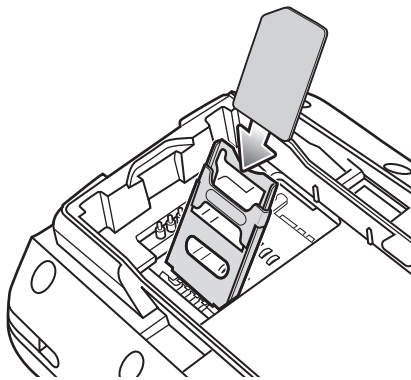

Figure 5-2 Inserting the SIM Card
6. Insert the SIM card, as shown in Figure 5-2, with the cut edge of the card facing out and the contacts facing down.